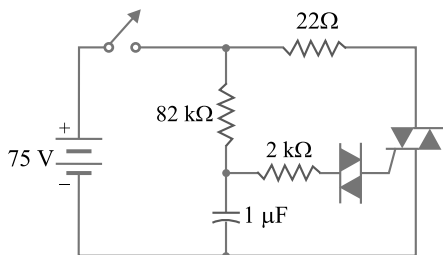

Fig. 19.36
6. In Fig. 19.36, the switch is closed. If the triac has fired, what is the current through the  $22\Omega$  ? [ $3.41\text{ A}$ ]